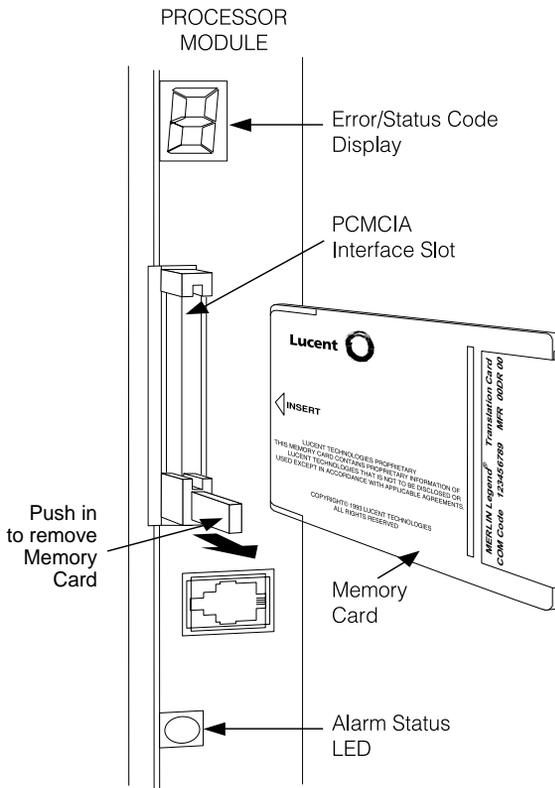

Figure 4-7. Inserting the Upgrade Memory Card
- ▶ 1. Insert an upgrade memory card containing the circuit module firmware into the PCMCIA interface slot on the processor board. See Figure 4-7.